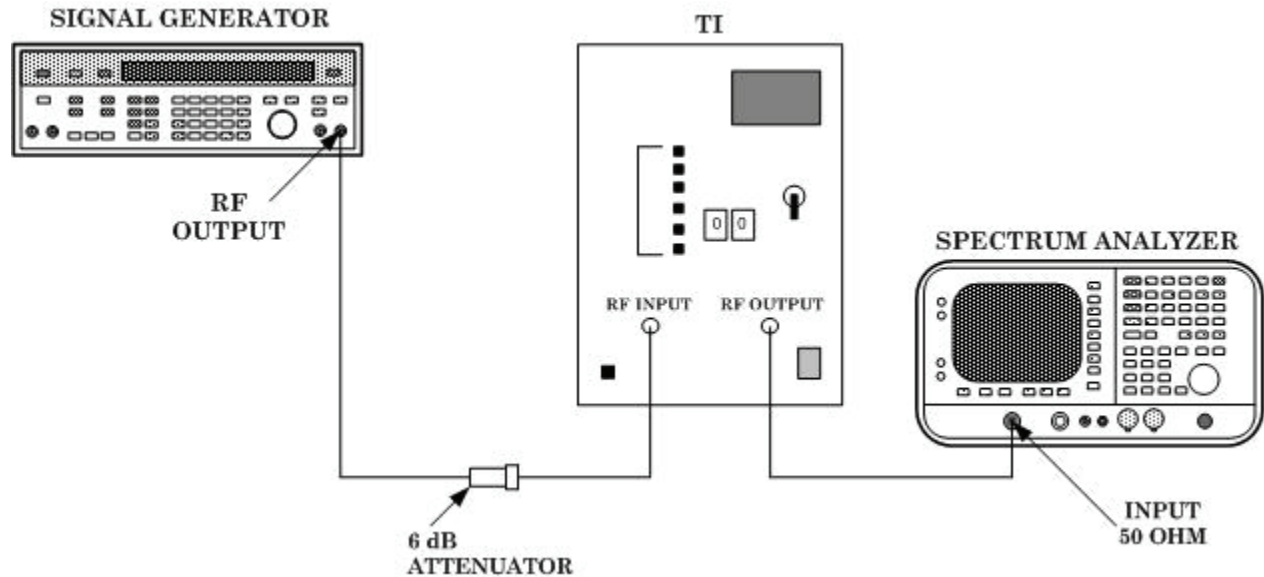

Figure 2. Harmonic rejection.
(1) Connect equipment as shown in figure 2.
(2) Set TI **AUTO/MANUAL/SELECT** switch to the center position, **MANUAL** (manual operation), and set the thumb wheels to select range **01**. Press the **AUTO/MANUAL/SELECT** switch down momentarily to activate the TI range.
(3) Set signal generator to produce a 135 kHz CW output at 0 dBm.
(4) Set spectrum analyzer center frequency to match signal generator output frequency and span to 250 kHz.
(5) Press the spectrum analyzer **Peak Search, Marker, Delta** keys.
(6) Set signal generator output frequency and spectrum analyzer center frequency for that of the 2^d harmonic as listed in table 4 and press **Peak Search** key. Spectrum analyzer will indicate as listed in table 4.
(7) Repeat technique of (6) above for the 3^d and 4th harmonics.